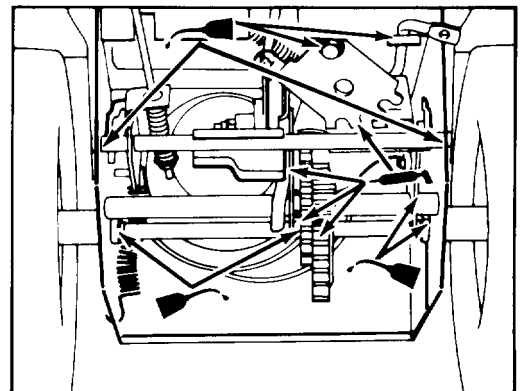

Figure 17
3. Lightly lubricate points shown with SAE 10W-40 oil or grease (Fig. 17). Wipe up any excess oil or grease.